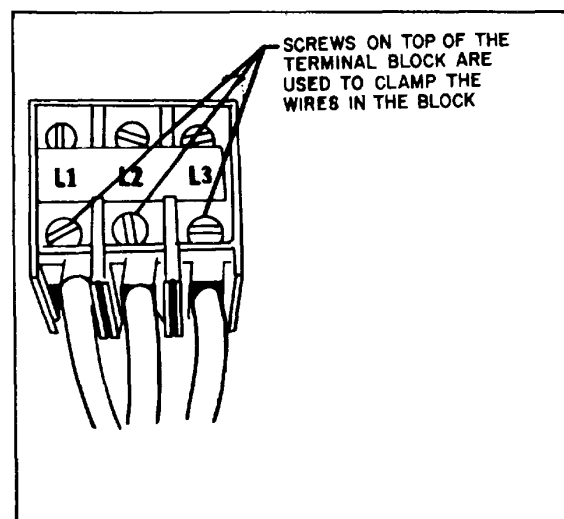

Figure 25. Terminals L1-L2-L3 Connections
3. The wires must be connected to terminals L1-L2-L3 through the front face of the terminal block as shown in Fig. 25. The screws on the top of the terminal block are used for clamping the wires in the terminal block.